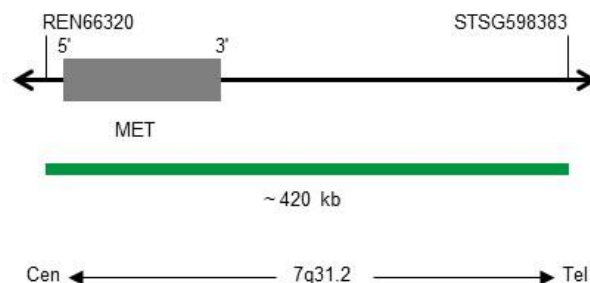

Fig. 1: SPEC MET Probe map (not to scale)
- Digoxigenin-labeled polynucleotides (~1.1 ng/ μ l), which target sequences mapping in 7q31.2* (chr7:116,298,989-116,718,699) harboring the MET gene region (see Fig. 1).